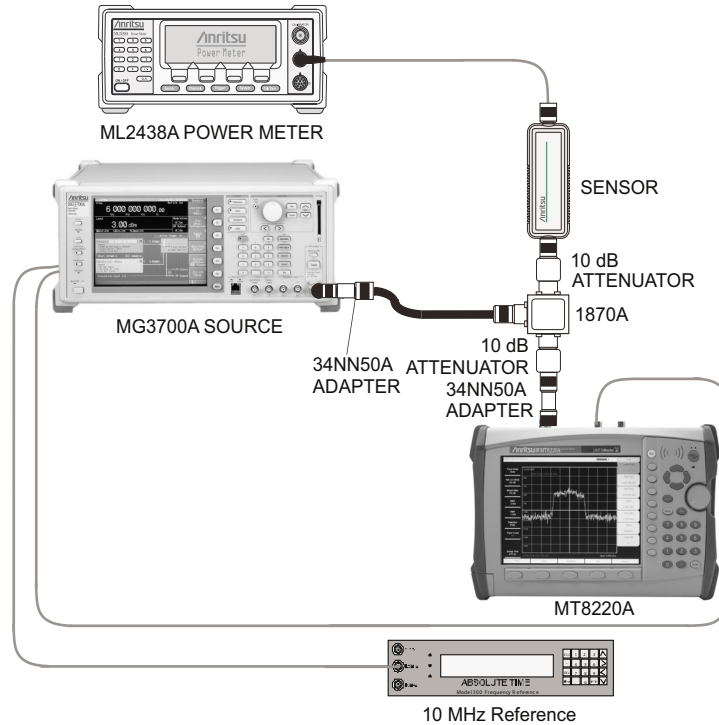

Figure 6. W-CDMA Occupied Bandwidth Test Setup
2. Connect the MG3700A, splitter, attenuator, power meter, and sensor to the Spectrum Analyzer RF In as shown on Figure 6.
2. Connect the MG3700A, splitter, attenuators, power meter, and sensor to the Spectrum Analyzer RF In as shown on Figure 6.
2. Connect the MG3700A, splitter, attenuators, power meter, and sensor to the Spectrum Analyzer RF In as shown in Figure 6.